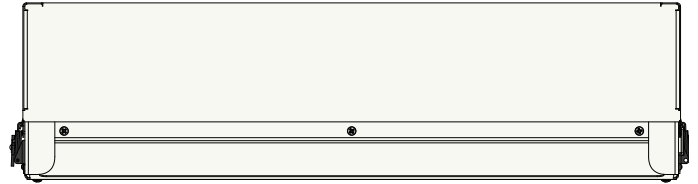

FIG. 1a
- Turn the BenchTop DC Assembly (A) upside down [FIG. 1a]. Clean and dry the bottom thoroughly.